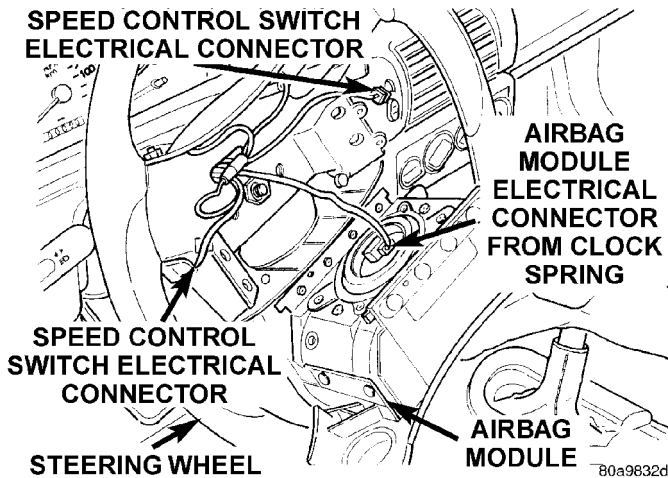

Fig. 10 Air Bag Module Electrical Connection
(7) Remove air bag module from center of steering wheel. Then disconnect the clock spring electrical lead from the back of the air bag module (Fig. 10).
(16) Install air bag electrical lead from clock spring, into connector on back of air bag module (Fig. 10). **Be sure electrical connector from clockspring is securely latched into air bag module connector.**